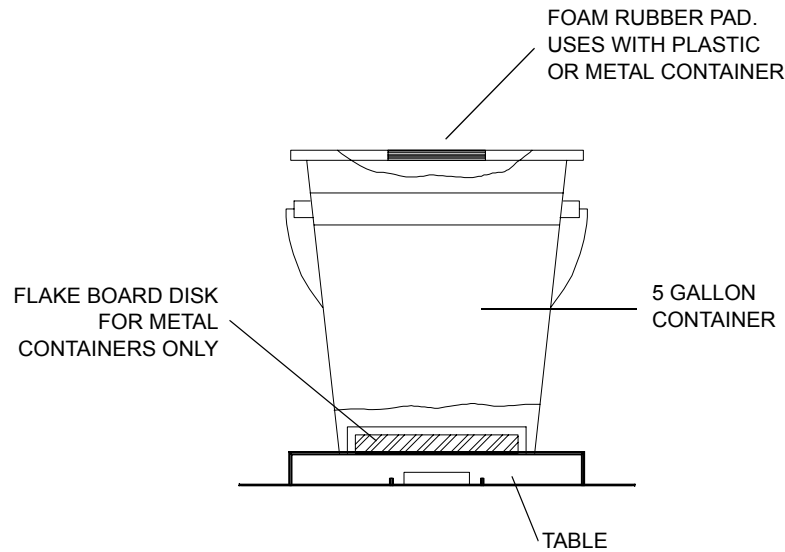

Figure 4. 5-Gallon Container Cut-Away View
- On 5-gallon metal containers use the flake-board disc for recessed bottoms that do not have a center support. Use the discs for recessed tops. See BASIC OPERATION, Figure 4, “5-Gallon Container Cut-Away View” on page 14.